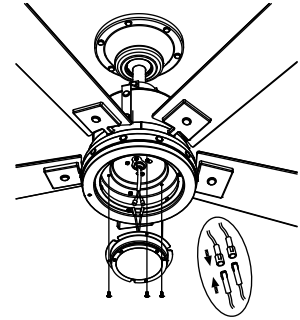

Fig. 20
Step 1. Hold the light kit close to the switch housing and connect the WHITE wires from the light kit and fan by pushing the connectors together. Follow the same procedure with the BLACK wires. (Fig. 20)
Step 2. Tuck the connections neatly into the light kit. Align three round holes on the light kit and switch housing. Securely tighten with 2 screws found in light kit hardware pack. (Fig. 20)